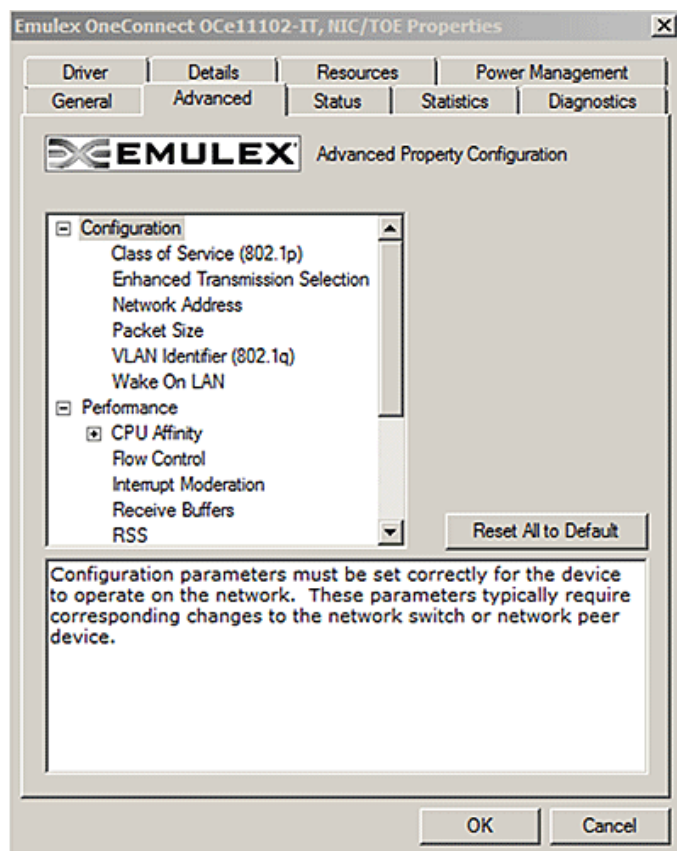

Figure 2-2 NIC/TOE Advanced Properties in Windows Server 2008
3. Click **Properties**, then click the **Advanced** tab (Figure 2-2 on page 50).